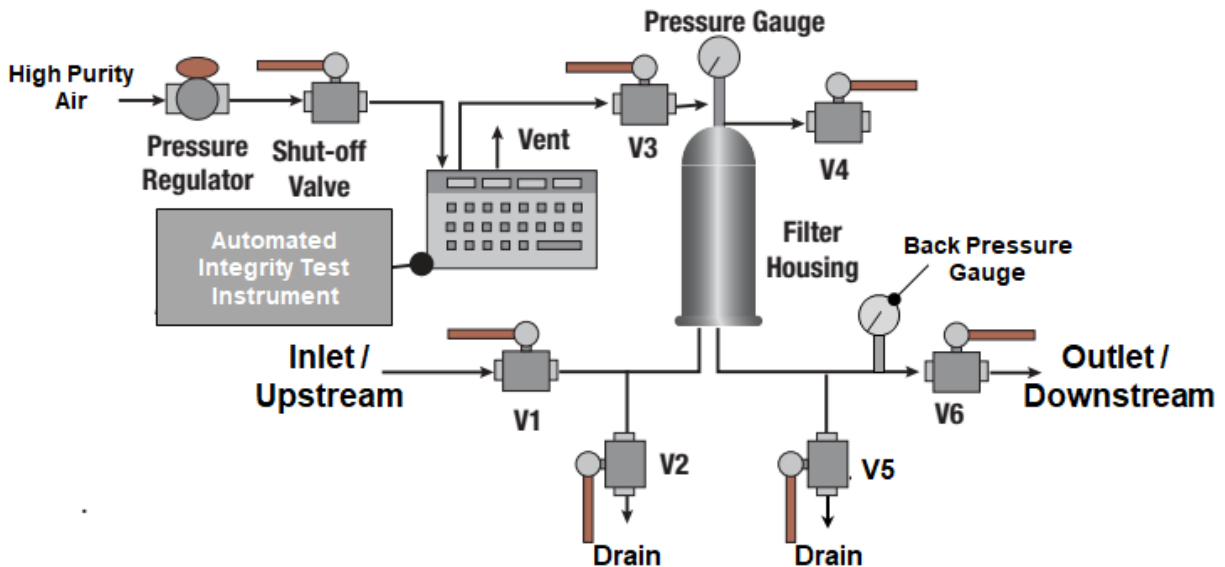

Figure 2. Housing Connection and Flow Schematic
Refer to Figure 2 for cartridge housing set-up configuration and valve descriptions.
- 1) Assemble the system as shown in Figure 2 with all valves in the closed position.